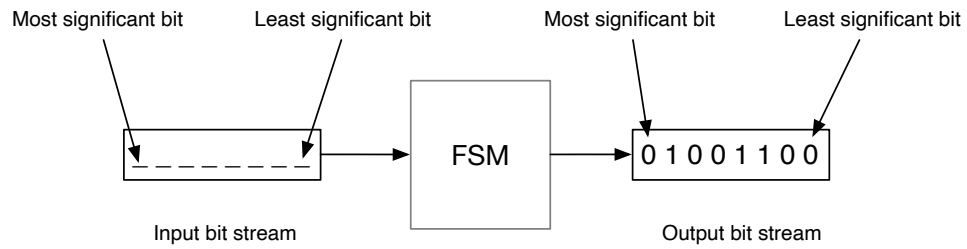

Figure 2: Usage of the Mealy machine to process a bit stream.
- (b) Assume the state machine in Figure 1 is used to process binary numbers, from their least significant bit to their most significant bit. You observe an output bit stream from this FSM, as shown in Figure 2.